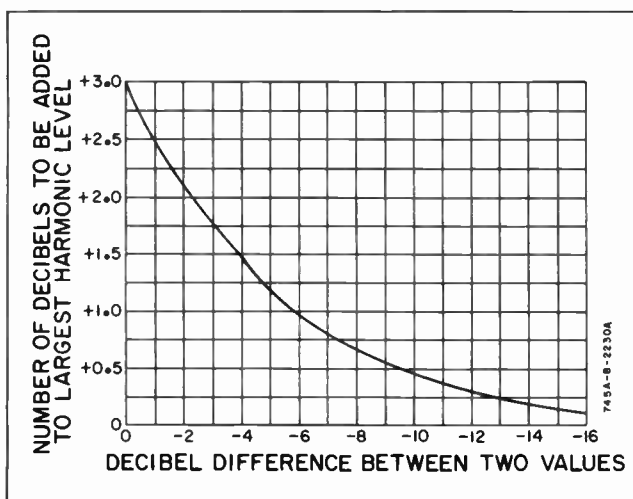

Figure 5-12. Logarithmic Addition of Harmonic Components
- 2) Using the chart below (Figure 5-12), determine the dB to be added to the largest harmonic level.